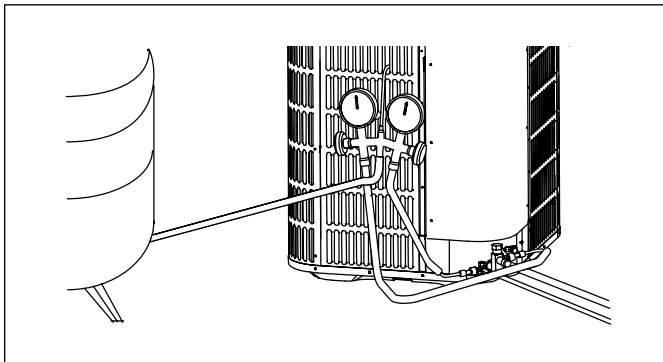

Figure 50
- ▶ Connect gauges to refrigerant bottle and unit as illustrated (Fig. 50).